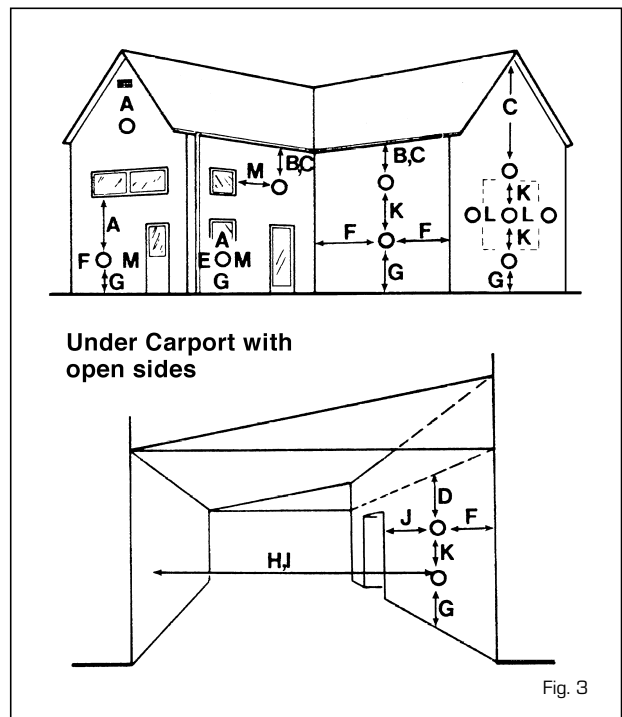

Fig. 3
- The minimum acceptable dimensions from the terminal to obstructions and ventilation openings are specified in fig. 3.